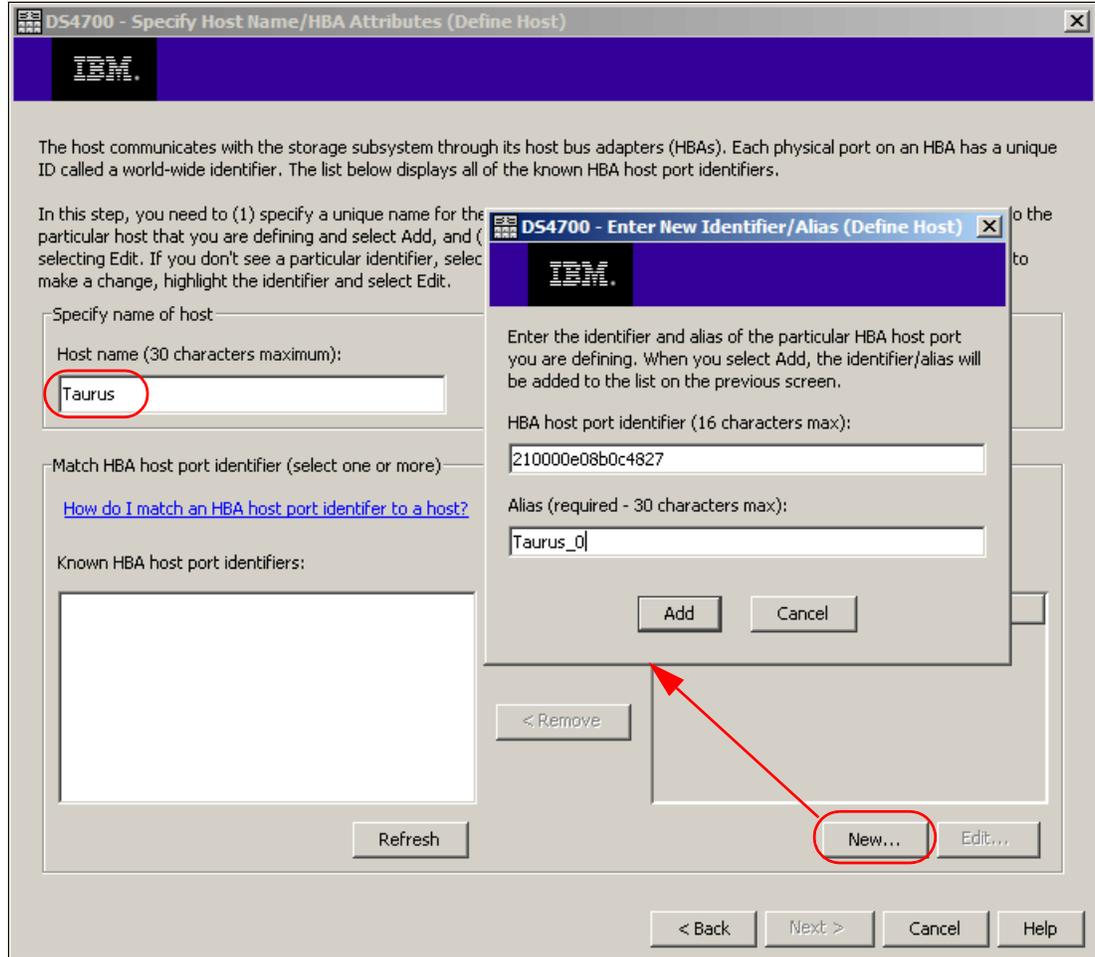

Figure 10-55 Enter new HBA identifier
9. In the host wizard, enter the server name in the host name box and select and define an alias of the WWPN of the server's first HBA. If the WWPN is not listed on the left panel, add it manually by clicking the **New** button, then type in the server's first HBA WWPN, as displayed in Fast!Util in step 1 above. You also must define an alias for it, as shown in Figure 10-55.